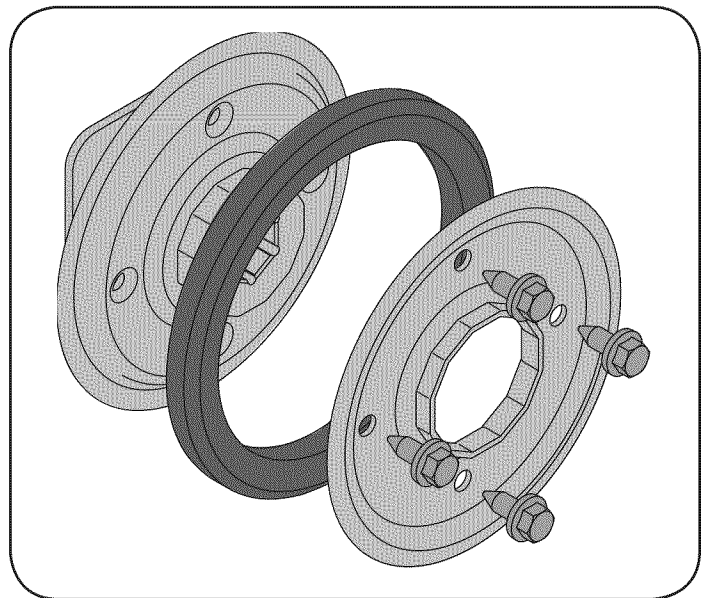

Figure 34
1. Remove the four screws which secure the friction wheel's side plates together. See Figure 34.